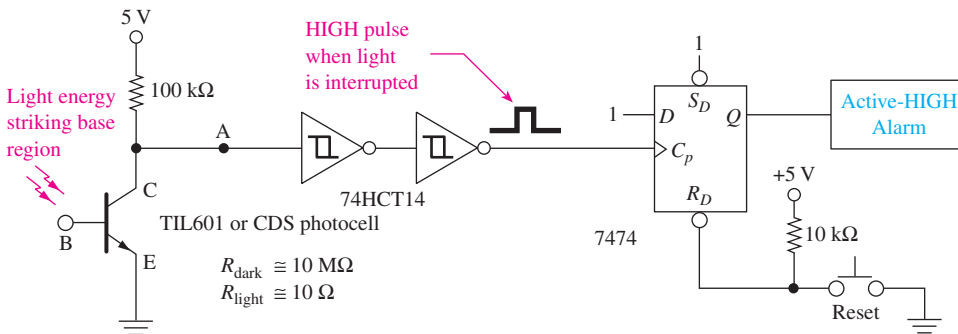

Figure 47 Phototransistor used as an input to a latching alarm system.
The circuit of Figure 47 uses a phototransistor in an alarm system. The phototransistor could be placed in a doorway and positioned so that light is normally striking it. This will keep its resistance low and the voltage at point A low. When a person walks through the doorway, the light is interrupted, making the voltage at point A momentarily high. The 74HCT14 Schmitt inverters will react by outputting a LOW-to-HIGH pulse. This creates the clock trigger to the D flip-flop, which will latch HIGH, turning on the alarm. The alarm will remain on until the Reset pushbutton is pressed.
15. Is the phototransistor alarm in Figure 47 better suited for a home burglar alarm or as an alarm to announce when a customer has entered a store? Why?
16. How would the operation of the alarm in Figure 47 change if only one Schmitt inverter was used instead of two?